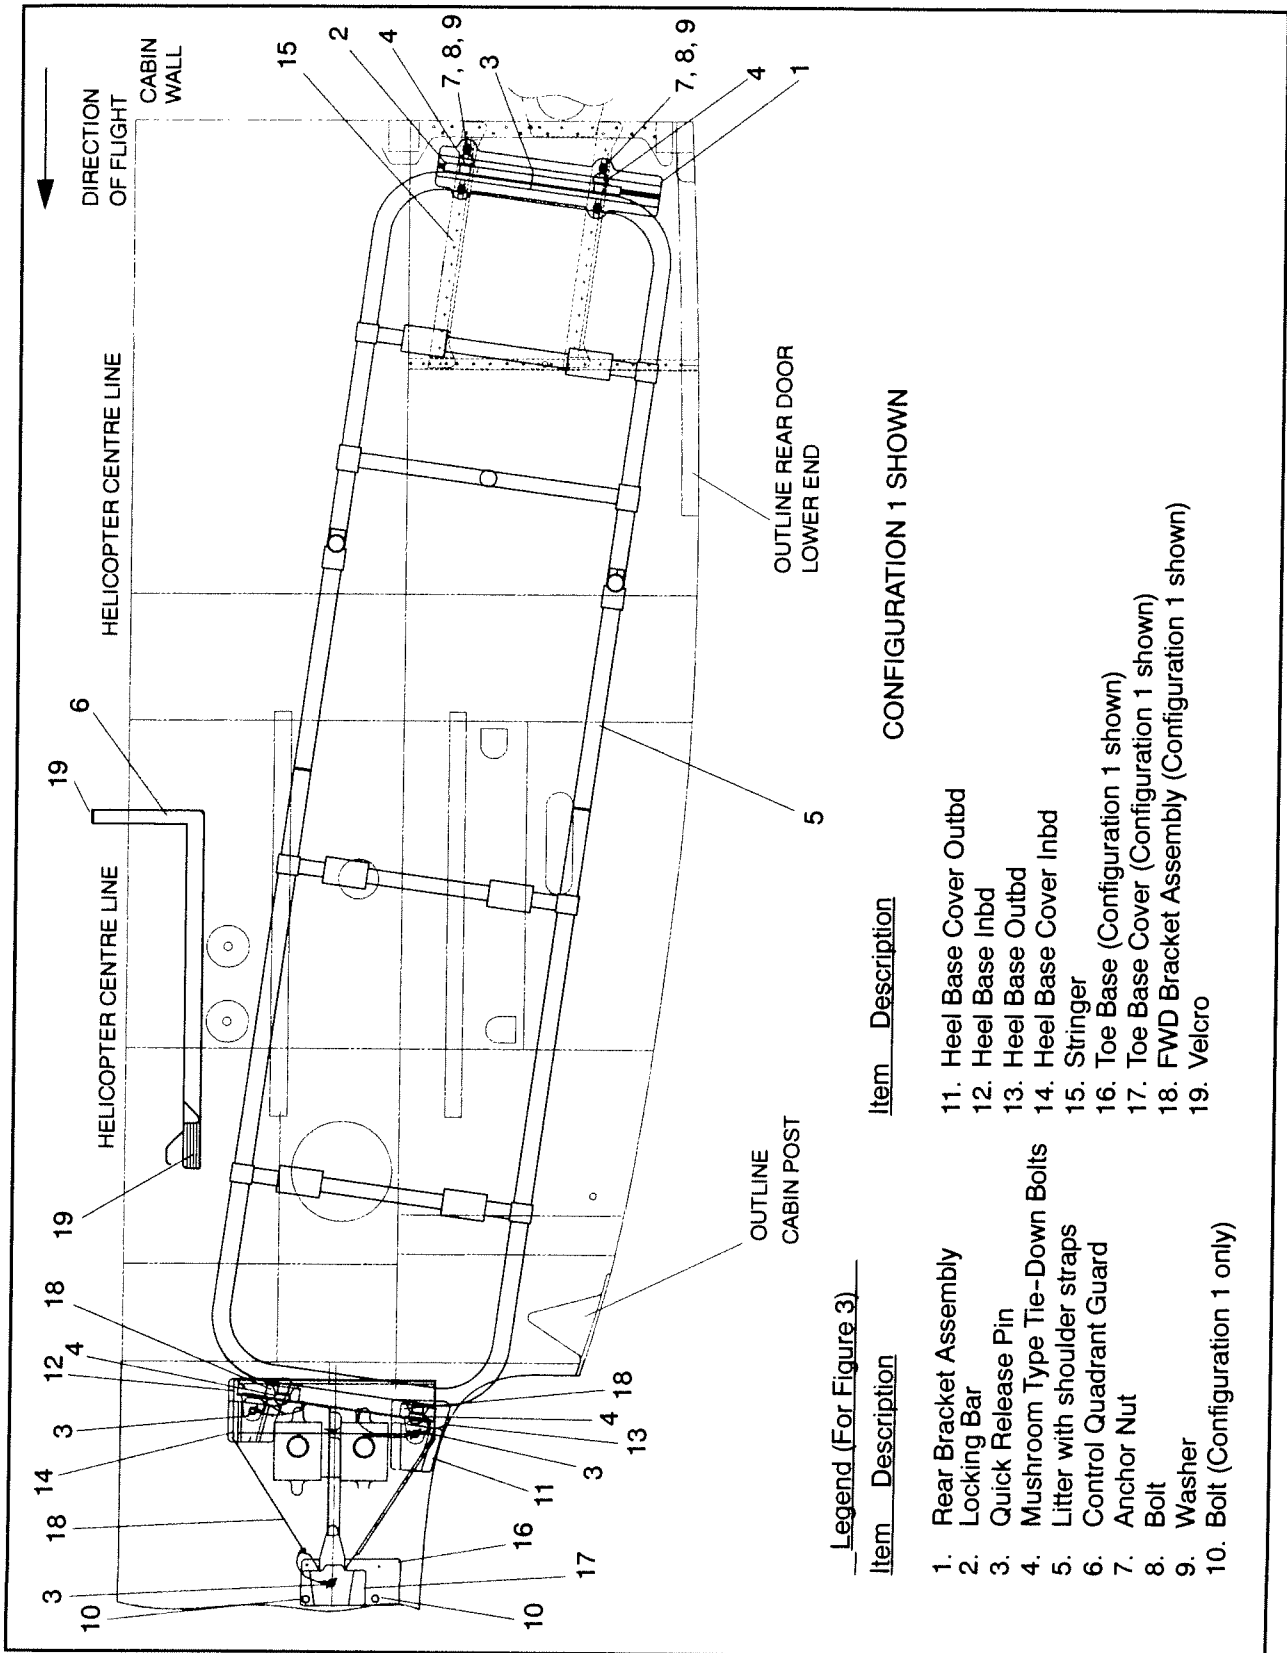

Figure 3 Mounting Hardware
- 1) Left-Hand Litter Installation (Refer to Figures 3 and 4)
- b) Release the AFT litter mushroom type tie-down bolts (4) from the rear bracket assembly (1) by removing the quick release pin (3) and removing the locking bar (2). Refer to Figure 3.
- c) Remove the mushroom type-tie-down bolts (4) from the FWD bracket assembly (1, Configuration 1) or the FWD bracket assembly, short (4, Configuration 2) mounting holes. Refer to Figures 3 and 4.
- d) Remove the litter (5) from the aircraft. Refer to Figure 3.
- e) Secure the locking bar (2) onto the rear bracket assembly (1) for storage. Refer to Figure 3.
- f) To remove the FWD bracket assembly (1, Configuration 1) or the FWD bracket assembly, short (4, Configuration 2), remove the three quick release pins (3). Refer to Figures 3 and 4.
- b) If removed, reinstall the FWD bracket assembly (1, Configuration 1) or the FWD bracket assembly, short (4, Configuration 2), with the three quick release pins (3). Refer to Figures 3 and 4.
- c) Load the litter (5) into the aircraft. Refer to Figure 3.
- e) Slide AFT litter mushroom type tie-down bolts (4) into rear bracket assembly (1) and secure with locking bar (2) and quick release pin (3). Refer to Figure 3.